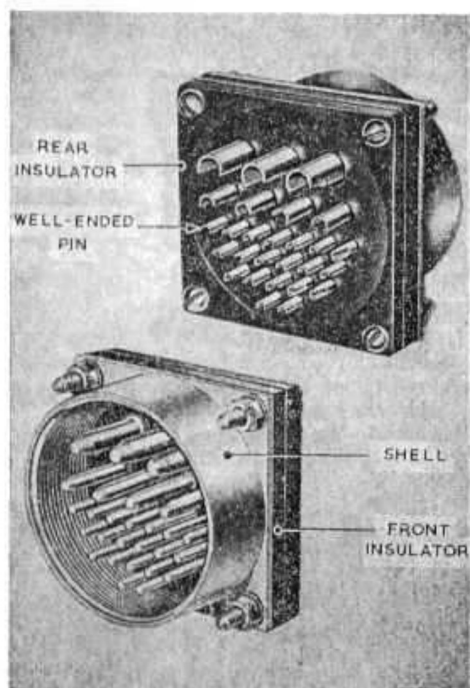

Fig. 2. Fixed unit—loose pins version
8. In this style of unit (fig. 2 and 5), the insulator comprised two identical parts. In order to reduce creepage, the perimeters of the pin contact holes in these discs are formed with stepped barriers so that the surface area between the pins is increased. The bases of the pins are sandwiched between the insulators when they are clamped to the shell flange by the fixing bolts. In stage 2 units the flange corners are drilled and tapped to accept the fixing bolts.